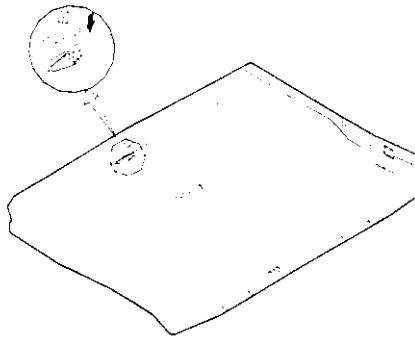

Figure 1-7
2. Lift the top cover to reveal the LCD panel and keyboard (Figure 1-7).